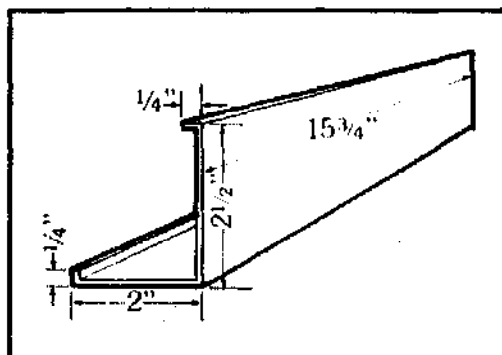

Figure 13.26—Baffle sealer.
19. Form the baffle sealer. Cut a strip 5 inches wide and $\frac{1}{4}$ inch shorter than the width of your stove body and fold according to Figure 13.26.